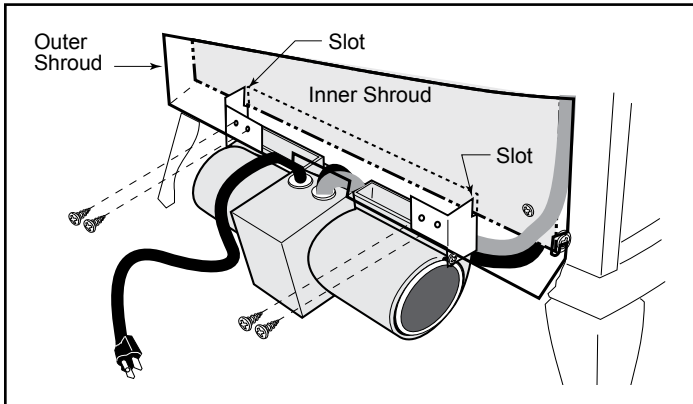

Figure 25 - Position the fan to engage the inner shroud with the fan bracket slots and secure with sheet metal screws.
- Position the fan assembly so the ducts slide between the inner and outer shroud. The inner shroud should engage with the two (2) slots in the ends of the bracket so that bracket and shroud are interlocked. (Figure 25) Secure the bracket with the four (4) sheet metal screws provided in the finish bag.